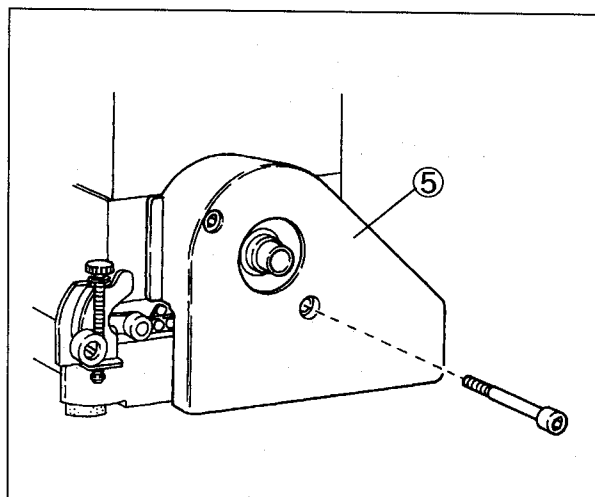
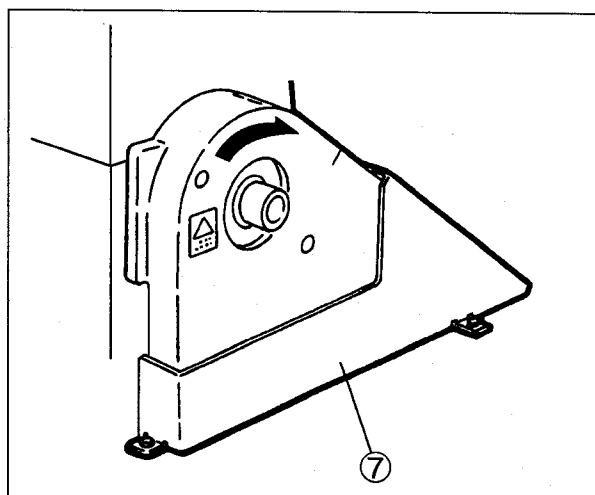

Fig. 8
Fig. 10
- (1) Install the belt cover ⑤. (Fig. 8)
- (2) Push the belt cover support ⑥ to the belt cover ⑤ to install it.
- (3) Fix the belt cover(lower)⑥ on the machine table. (Fig. 10)